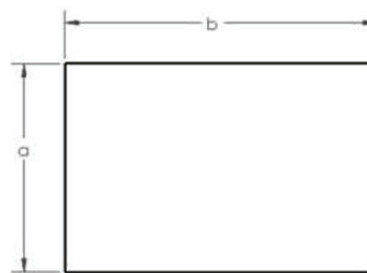

Figure 3. Hydraulic diameter of a rectangular passage equals four times the area of the rectangle divided by the perimeter.
**Rectangle.** Now let's test the hydraulic diameter of a rectangular duct or pipe (see Figure 3;  $a$  = width/height of the passage and  $b$  = height/width of the passage):